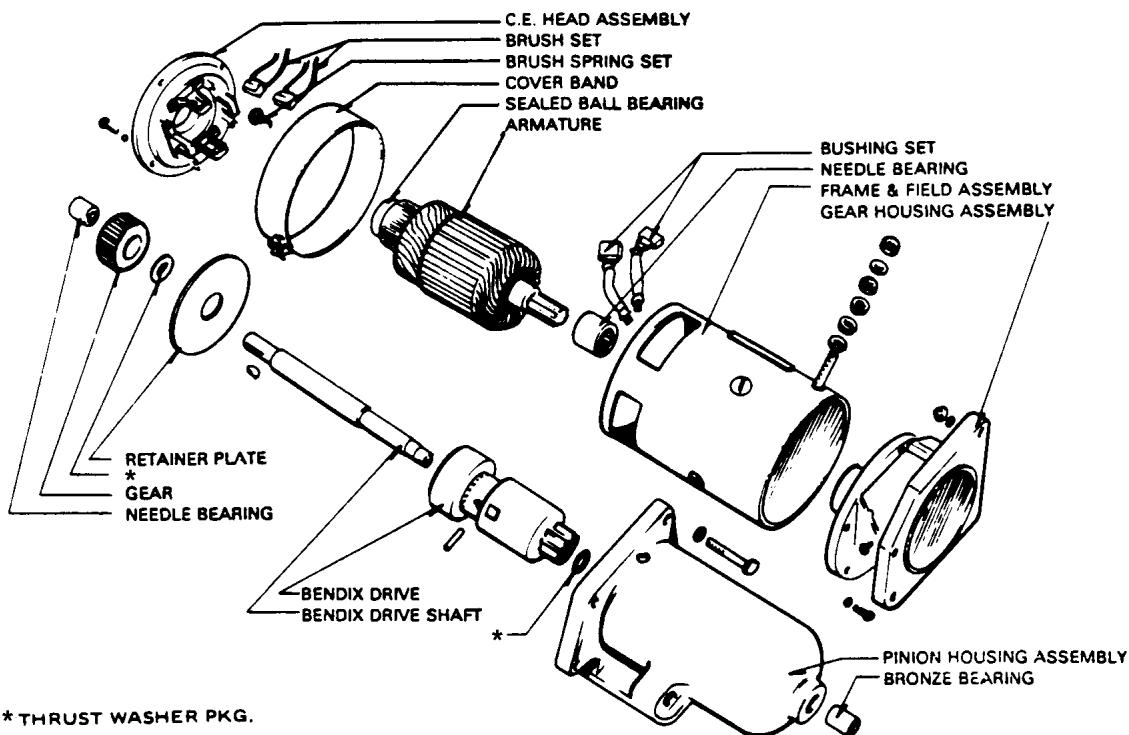

Figure 80-1. Exploded view if Gear Reduction Starting Motor
A. DESCRIPTION AND OPERATION (Refer to figure 80-1.)